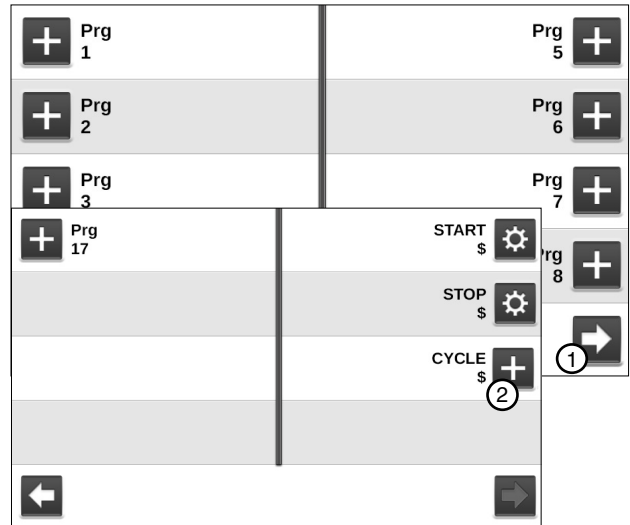

Figure 157-1 Step Programs Screen
1. Push **Menu**, **Programs**, and **Step Programs** to view the Step Programs screen. Refer to Figure 157-1.